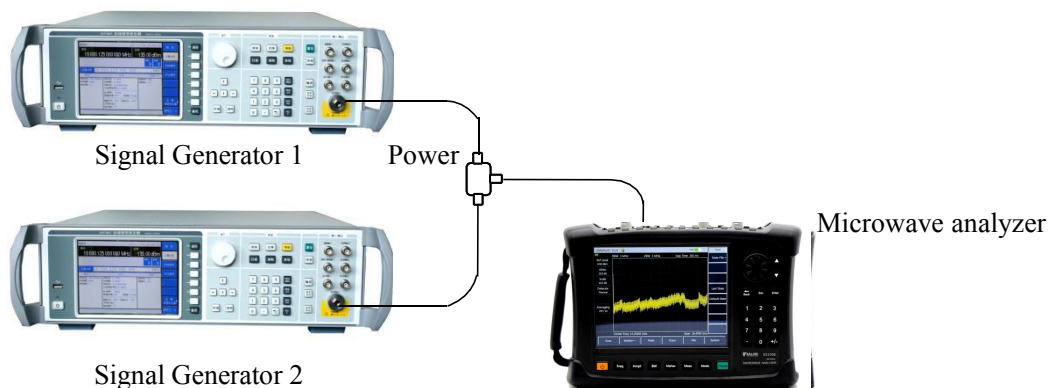

Figure 5-7 Connection Diagram for Instrument for Obtaining Two Input Signals
- a) Use the T-connector to connect the outputs of the two signal generators to the RF input port of the microwave analyzer as shown in Figure 5-7.
- Using a power splitter, connect the outputs of the two signal generators to the spectrum input port of the microwave analyzer, as shown in Figure 5-7.